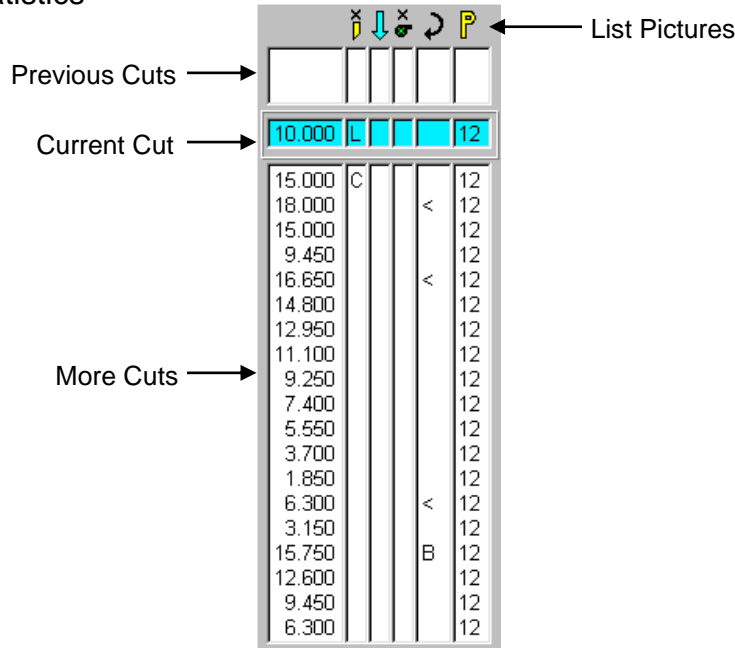

Figure 24 – Job Statistics
- K. Job Statistics (See Section 6.12.3 ,Figure 24)